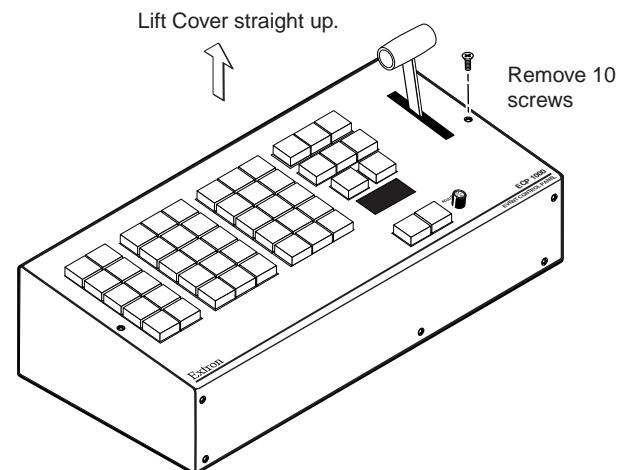

Figure A-2 — Removing the cover
2. Remove 10 screws from the back, top, and front of the cover (figure A-2).